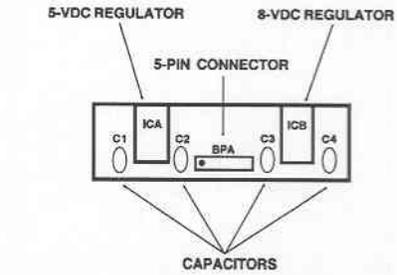

Figure 4-1. Linear regulators PCB (model 750M).
(2) Battery compartment bracket.
(3) *Linear regulators PCB (fig 4-1).*